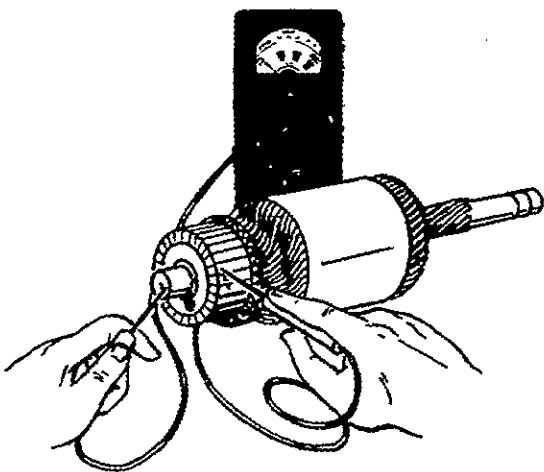

FIGURE 49. TEST FOR GROUNDED ARMATURE
**Testing Armature for Grounds:** Touch armature shaft or core and the end of each commutator bar with a pair of ohmmeter leads, Figure 49. If the ohmmeter reading is low, it indicates a grounded armature. Replace grounded armature.